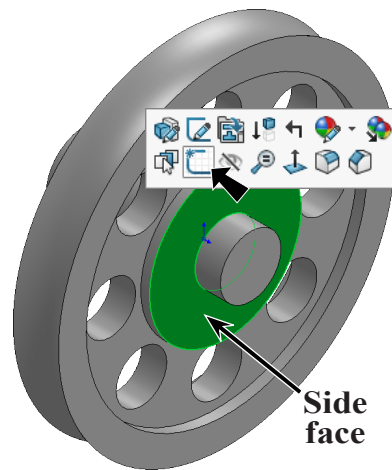

Fig. 26
Step 1. Click **side face of wheel cap** and click **Sketch**  on the context toolbar, **Fig. 26**.
Step 3. Click **Circle**  (S) on the Sketch toolbar.